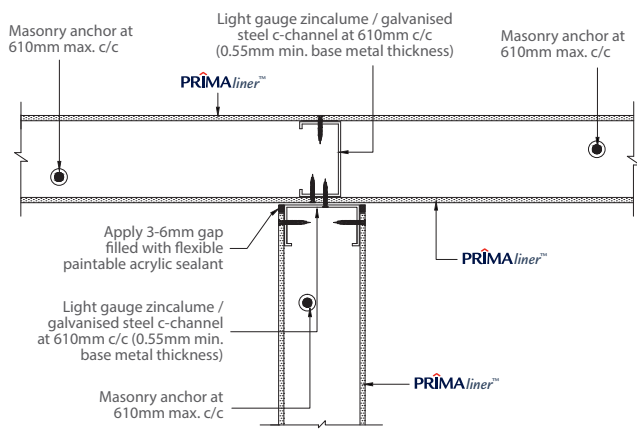

Figure 11: Drywall to drywall intersection
- d. Refer to Figure 11 for drywall to drywall intersection at the centre.